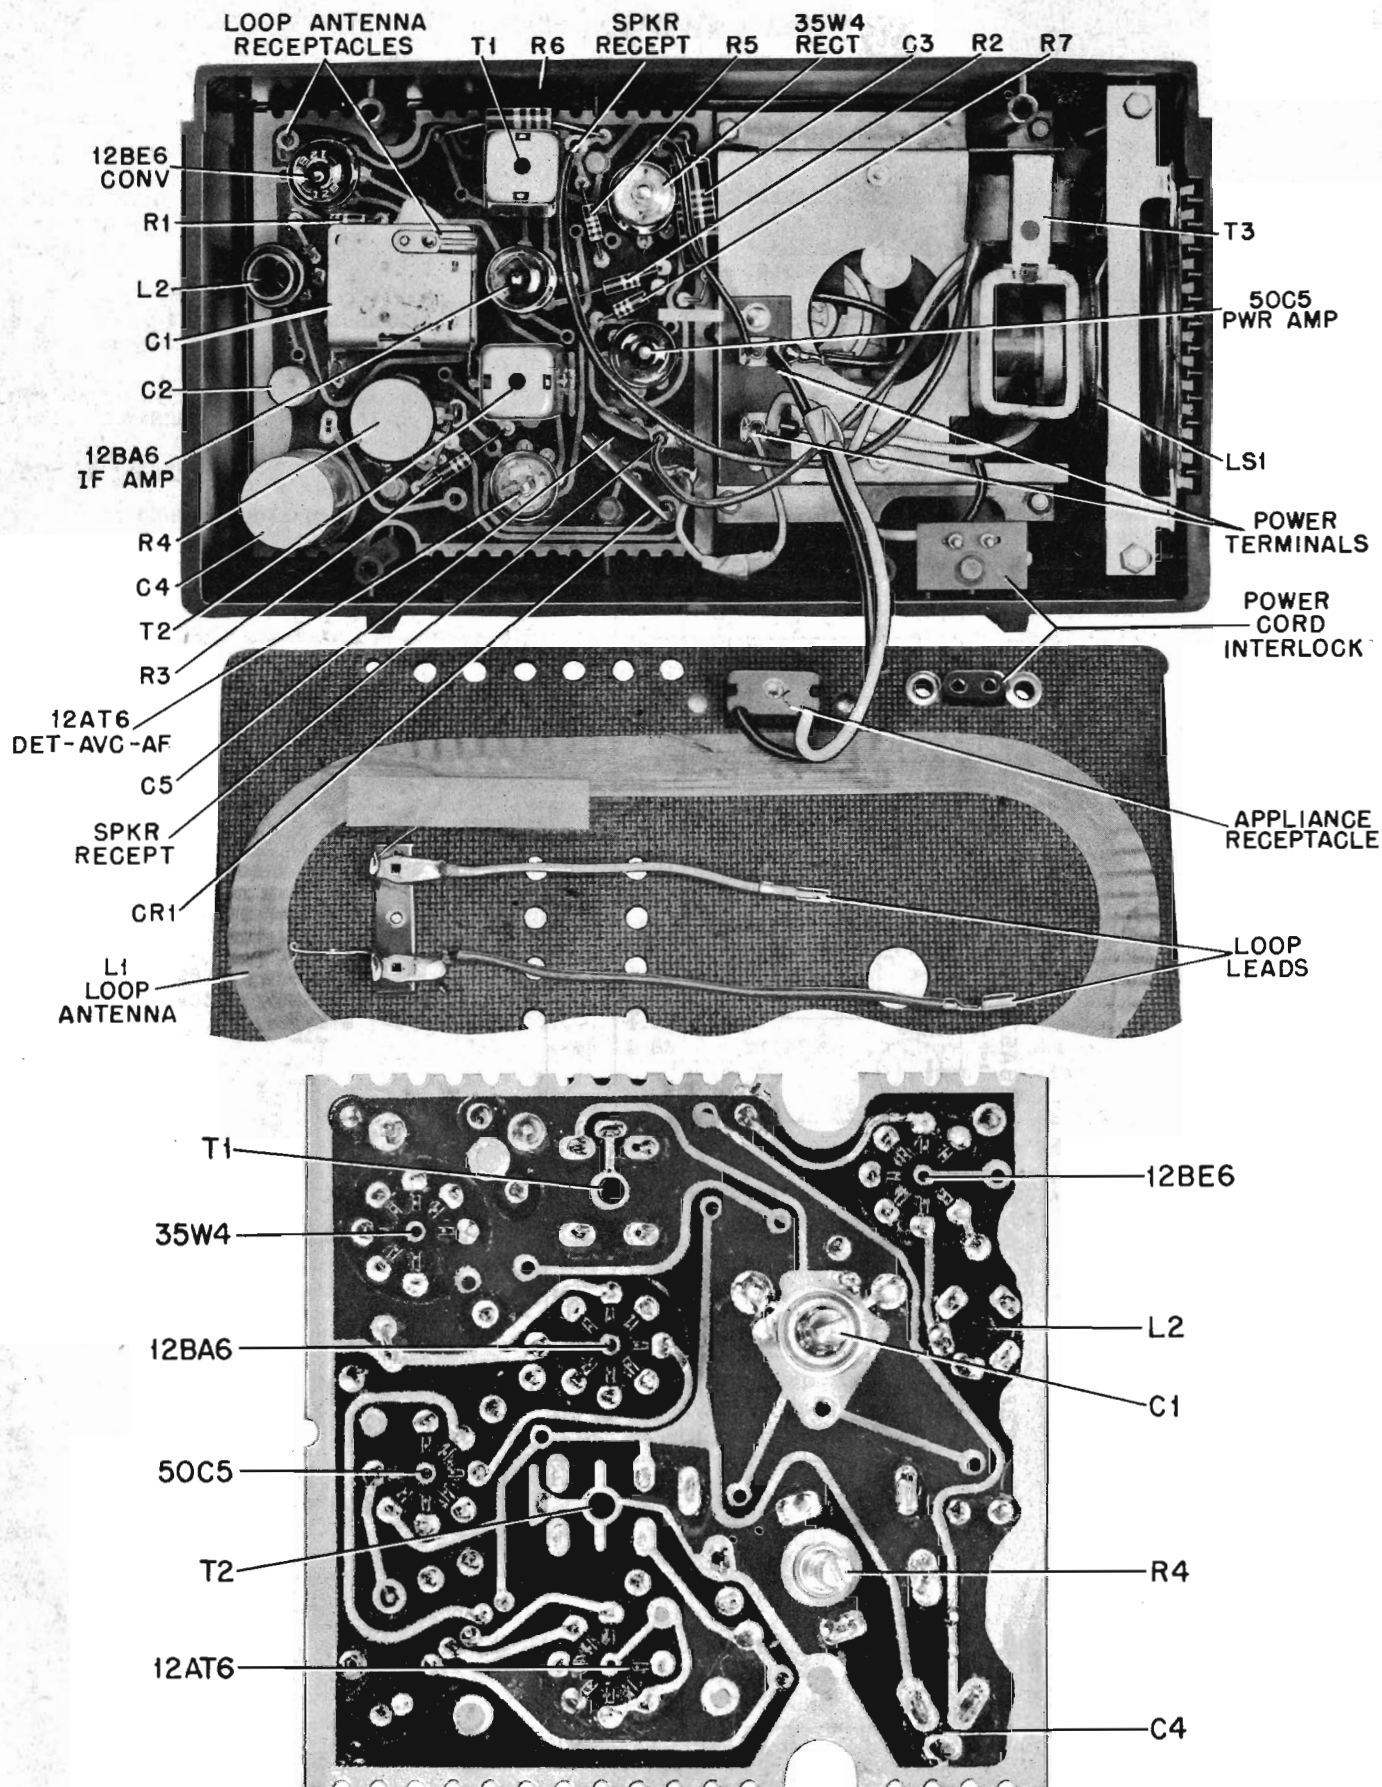

FIGURE 2. PARTS LOCATIONS
3. Reference to the schematic diagram and to Figure 2 will permit the circuit to be traced easily.